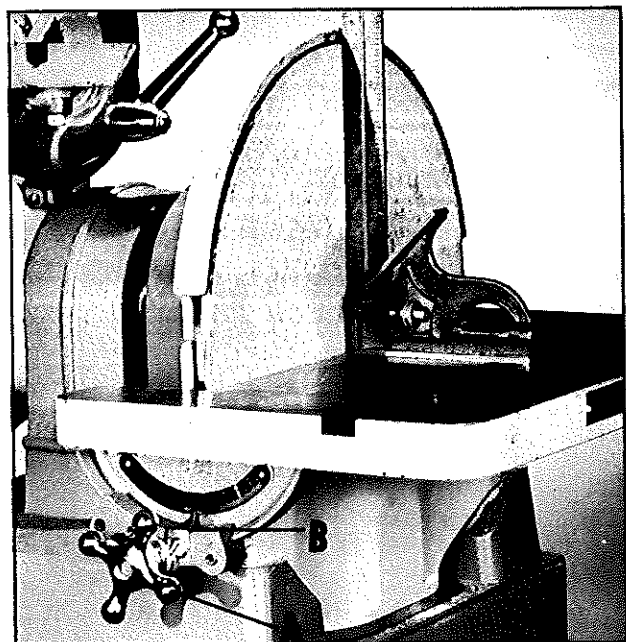

Fig. 22
1. Place an accurate square on the table with one end of the square against the disc, as shown in Fig. 22.
2. Loosen the table locking knobs (A) Fig. 22, which are located on each end of the table and move the table until it is at 90 degrees to the disc. Then tighten the table locking knobs (A).
3. Adjust the pointer (B) Fig. 22, so it points to the "0" mark on the scale.